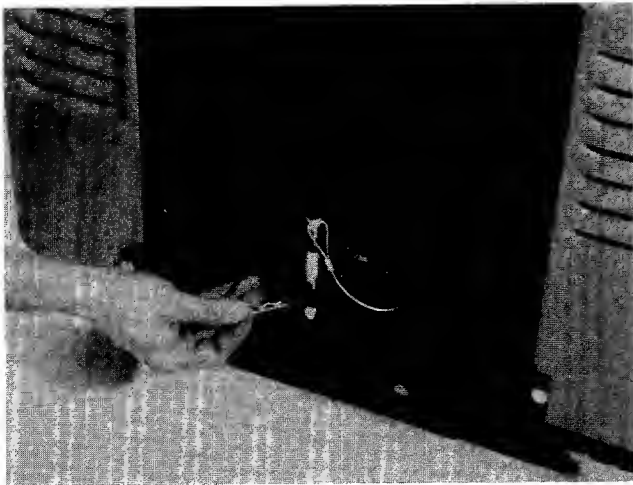

**FIGURE 30.**
3. Place the rear hitch plate against the discharge opening of the rider. Attach with four 5/16" screws (H), lock washers (I) and nuts (J). See figure 30.